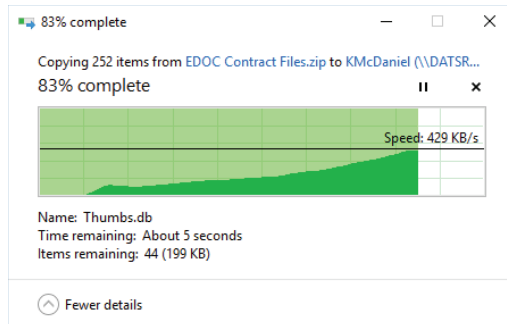

Figure 2-11: Copy Status Window
10. A copy status window will open while the zip file copies (extracts) the files (Figure 2-11).